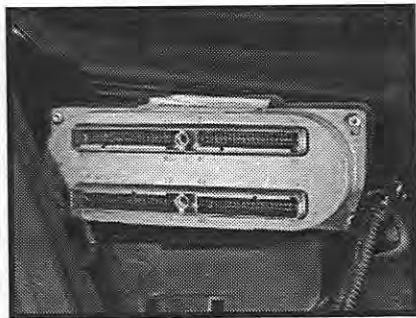

Figure 6
6. Install the JET PCM onto the ECM (computer) (*see Fig. 6*).